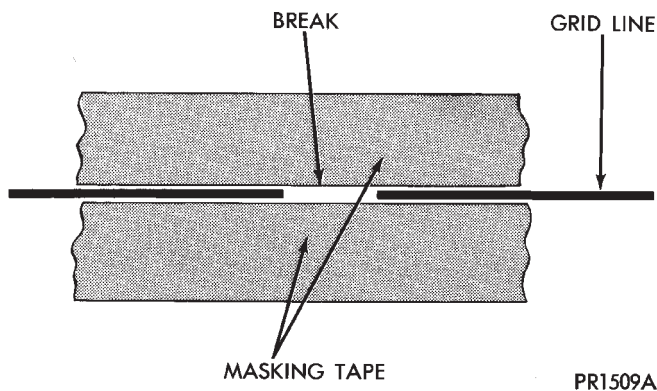

Fig. 2 Grid Line Repair - Typical
(1) Mask the repair area so that the conductive epoxy can be applied neatly. Extend the epoxy application onto the grid line or the bus bar on either side of the break (Fig. 2).